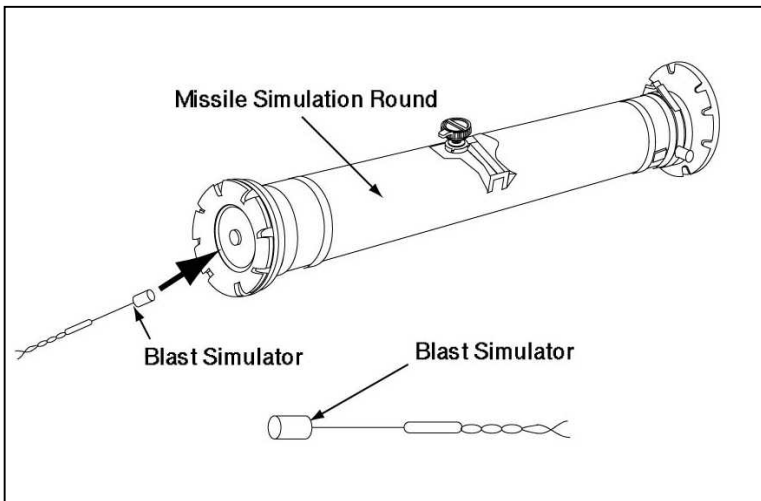

Figure 5-2-5: Blast Simulator
- (2) Check the forward and rear handling rings on the encased missile to make sure they are not damaged (see Figure 5-2-5).